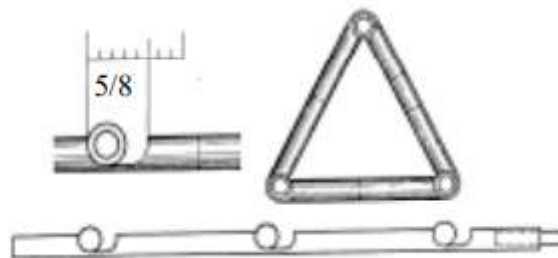

Fig. 2 Equilateral collective bent mortise
Figure 2 bamboo culm basic cuts
- In practice the length can be reduced by 1 ~ 3 mm (Fig. 2)